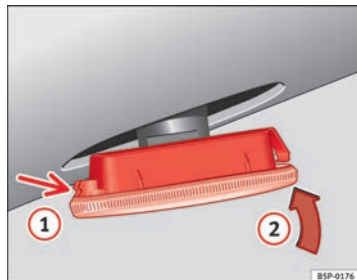

Fig. 190 Side turn signal
- First place the turn signal in the opening in the bodywork, fixing the tabs ⇒ fig. 190, arrow ①.
- Insert the bulb as shown by the arrow ② ⇒ fig. 190.